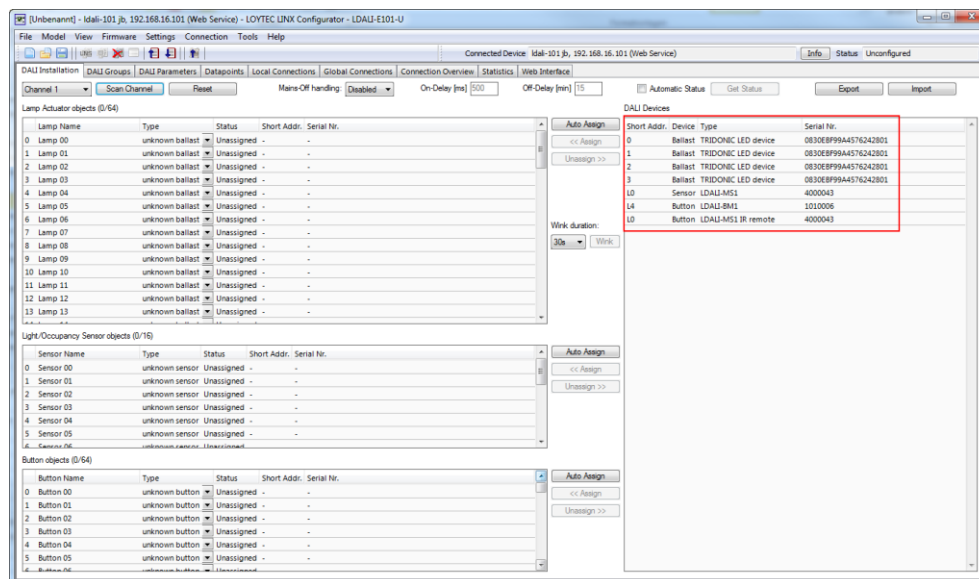

Figure 36: LINX Configurator software, detected DALI devices.
- The L-DALI device scans the selected channel and displays all detected devices as shown in Figure 36. In case an error occurs see the LOYTEC Device User Manual [1] for a description of the error codes and possible reasons.